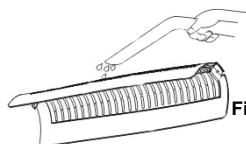

Fig. 7
3. To clean the air intake grill, you may use a vacuum with a crevice tool or brush attachment to get trapped dust out from between the gaps. Then clean with a damp cloth to remove any extra dirt and dust. (Fig. 7)